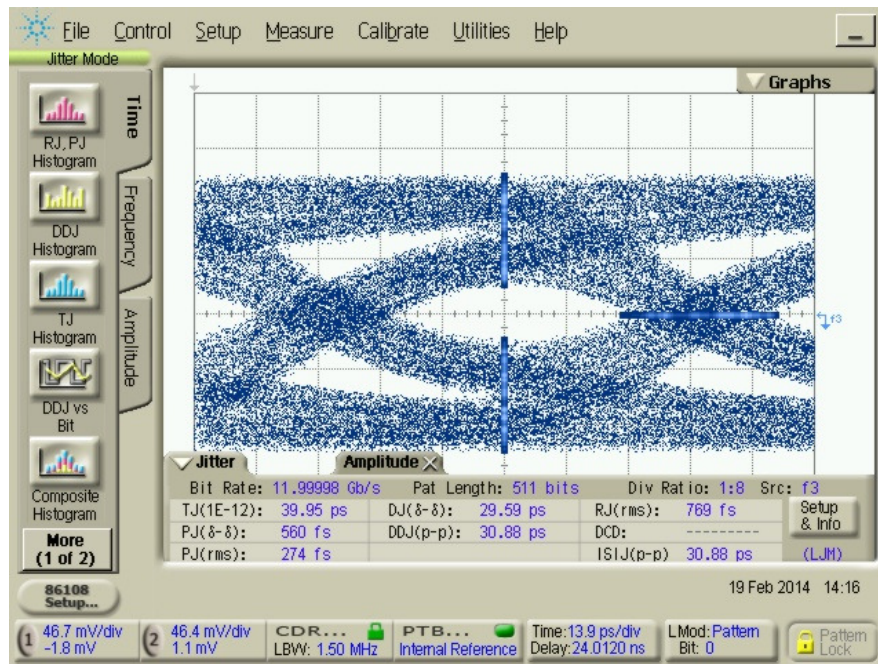
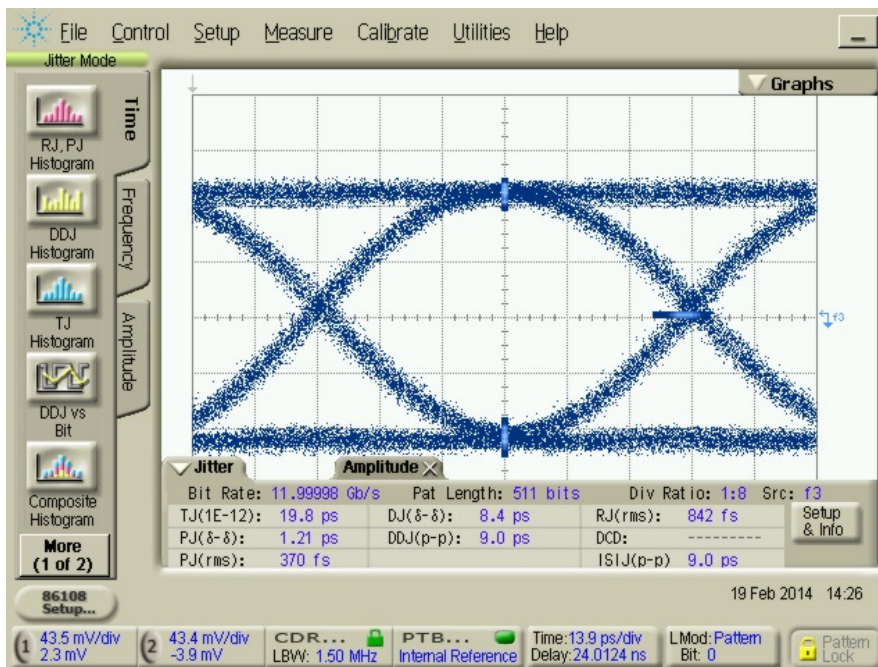
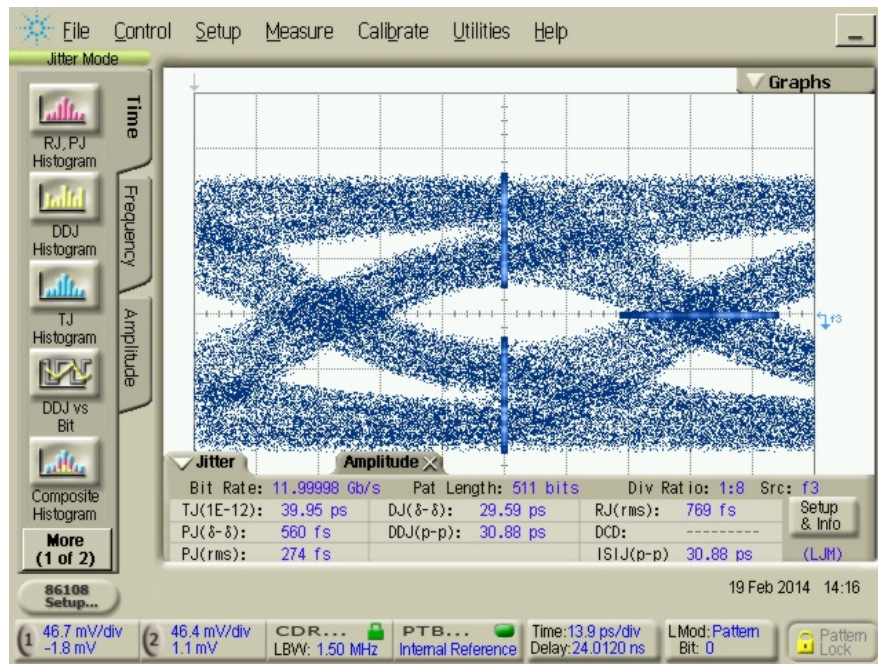

Figure 16. 12.0 Gb/s PRBS 2⁹-1. 10" Load Board Lossy Channel Only, as Indicated by *Point 2* in Figure 15.
Figure 17. 12.0 Gb/s PRBS 2⁹-1. HMC7545ABLP47 EVB with 10" Load Board Lossy Channel at *Input* Using Equalization (EQ), as Indicated by *Point 3* in Figure 15.
Figure 18. 12.0 Gb/s PRBS 2⁹-1. 10" Load Board Lossy Channel Only, as Indicated by Point 4, with Source at Point 3 in Figure 15.
Example EQ and DE results are shown in Figures 16 & 17 and Figures 18 & 19, below.
Figure 16 shows a 12.0 Gb/s signal through a 10" load board (lossy channel emulator) only. Figure 17 shows the output after Equalization (EQ) for a 12.0 Gb/s input signal routed through the EVB with a 10" load board lossy channel at the input.
Figure 18 shows a 12.0 Gb/s input signal through a 10" load board (lossy channel emulator) only. Figure 19 shows the HMC7545AxLP47 output after De-Emphasis (DE) for a 12.0 Gb/s input signal routed through the with a 10" load board lossy channel at the output.